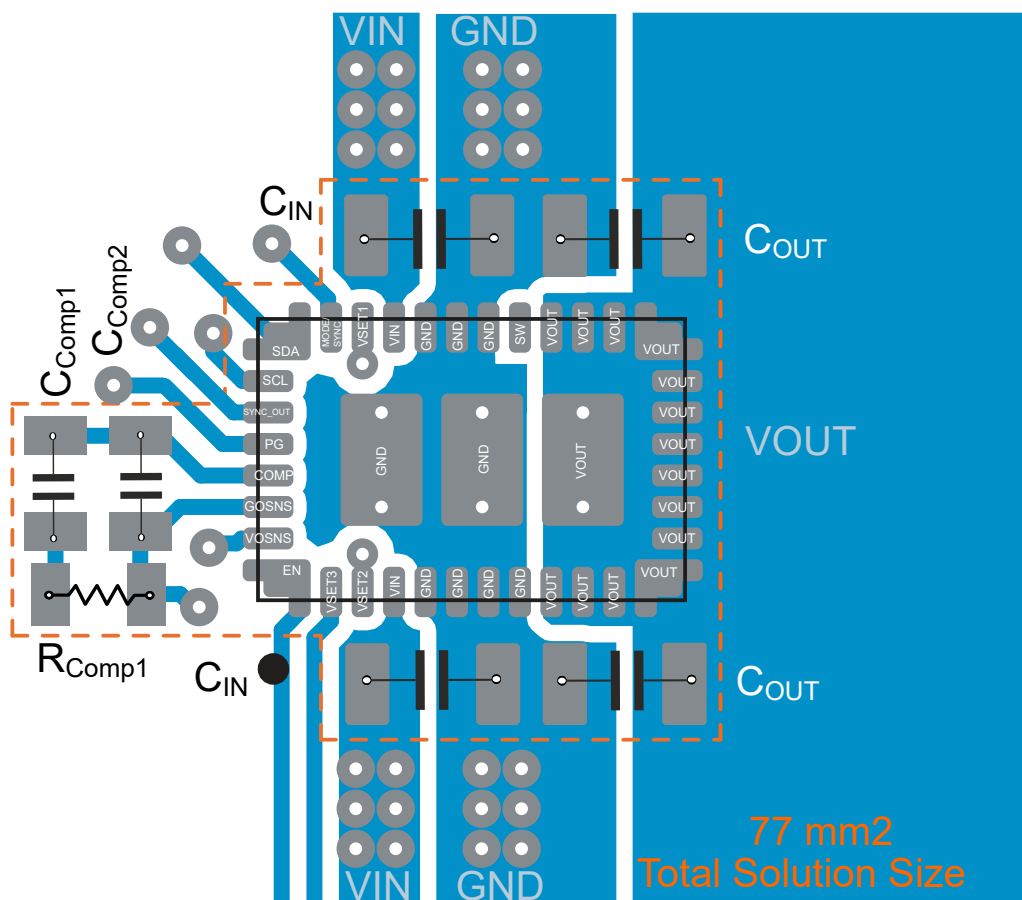

图 9-57. Layout Example
- Refer to 图 9-57 for an example of component placement, routing, and thermal design.